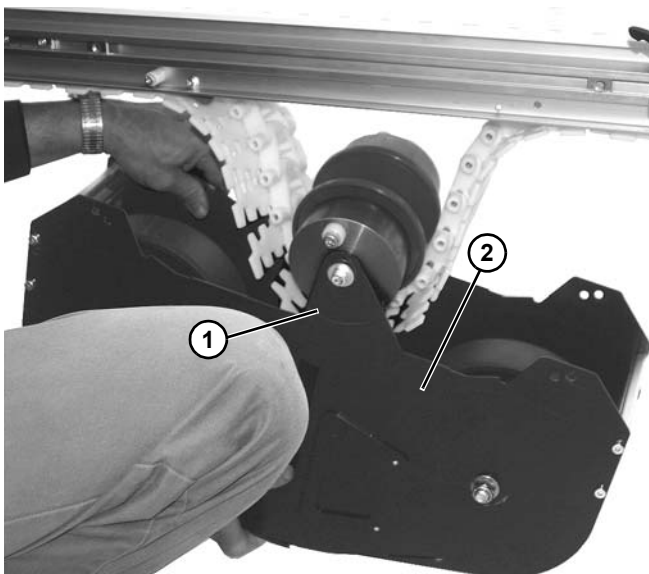

Figure 62
3. Raise weighted take up box assembly, with plate (**Figure 62, item 1**) on idler pulley assembly on outside of outer plate (**Figure 62, item 2**) of weighted take up assembly.